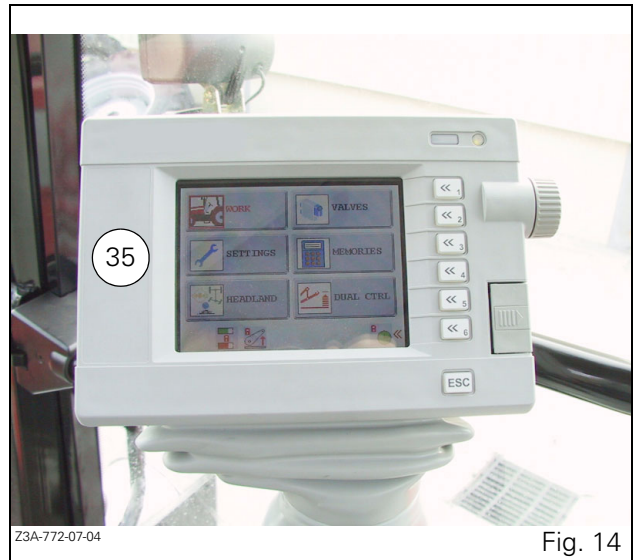

Fig. 14
- 35. Datatronic 3 onboard computer (Fig. 14).